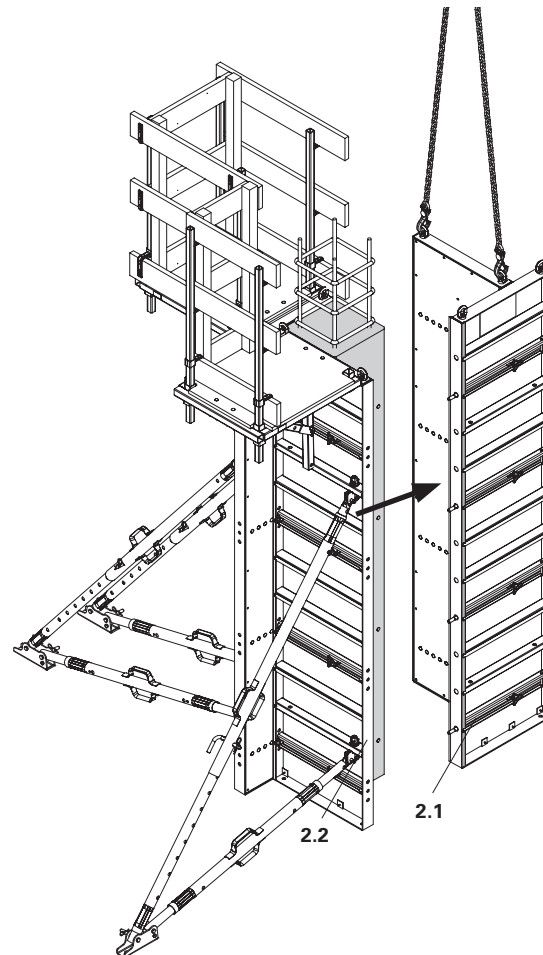

Fig. C3.01
3. Remove column half from the column and lay on ground for cleaning. (Fig. C3.01)